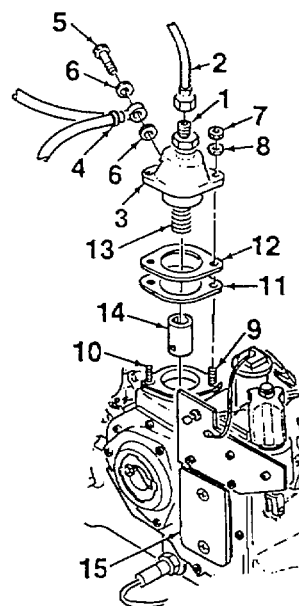

Figure 5-4. Fuel Injection Pump
1. If removed, install studs (9, 10, Figure 5-4). Long stud (9) is installed in hole closest to oil filler.
2. Install new paper gasket (11) onto studs (9, 10). Install shim(s) (12). Shim thickness must match thickness imprinted on engine block.
3. Place the engine acceleration lever in the full load position. Manually rotate the flywheel until roller tappet (19) is in the bottom dead center (BCD) position.
5. Carefully install injection pump (3) into engine block, making sure that the pump lug pin engages in the slot on the transverse lever of the control rod assembly. Observe that pin is engaged when viewed through access hole with cover removed.
6. Secure injection pump (3) using nuts (7) and washers (8). Torque nuts evenly to 15 to 17 ft-lbs (20 to 23 Nm).
7. Connect fuel line (4) to injection pump (3) using banjo bolt (5) and washers (6).
9. Turn engine using crank handle until fuel appears at the top of delivery valve (1).
11. Connect fuel pipe (2) to delivery valve (1). Torque pipe nut to 13.5 to 16 ft-lbs (18 to 22 Nm).